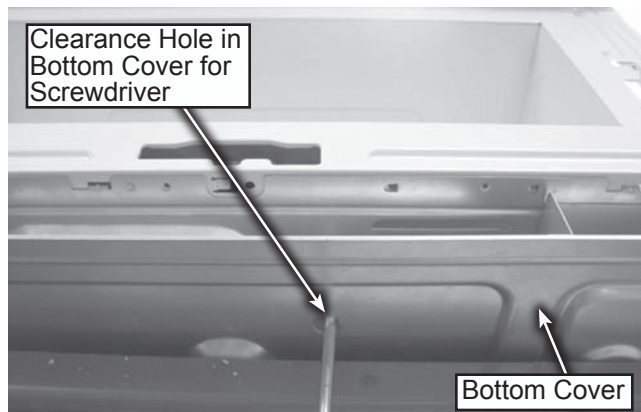

Figure 1a
7. Remove bottom screw below Auto Drawer Gear, see figure 1a and 1b.